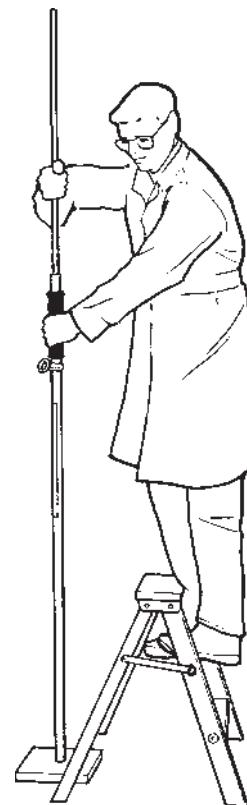

Figure 10.5 Use bushing driver p/n 22000-96101 in a slide-hammer fashion to force bushings from the shaft tube.
**STEP 3.** Lift the tube slightly and continue using the bushing driver. The entire stack of bushings should slide from the tube (Figure 10.5).